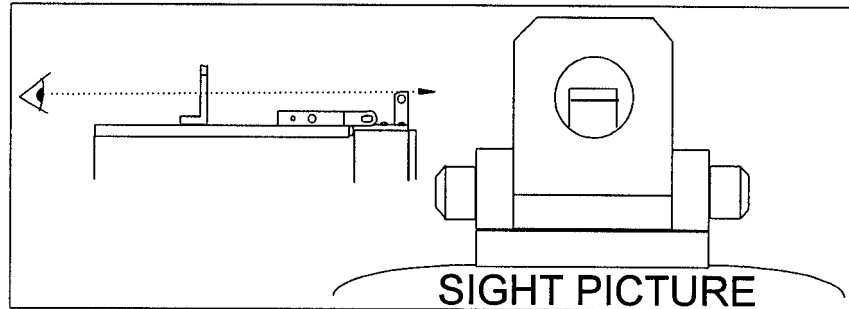

Figure 4-6
- o. Aim the beacon using the gunsights built into the lift eye and hinge, as shown in Figure 4-6. On long ranges, use an observer in a boat to ensure that the brightest part of the beam is on the channel centerline.